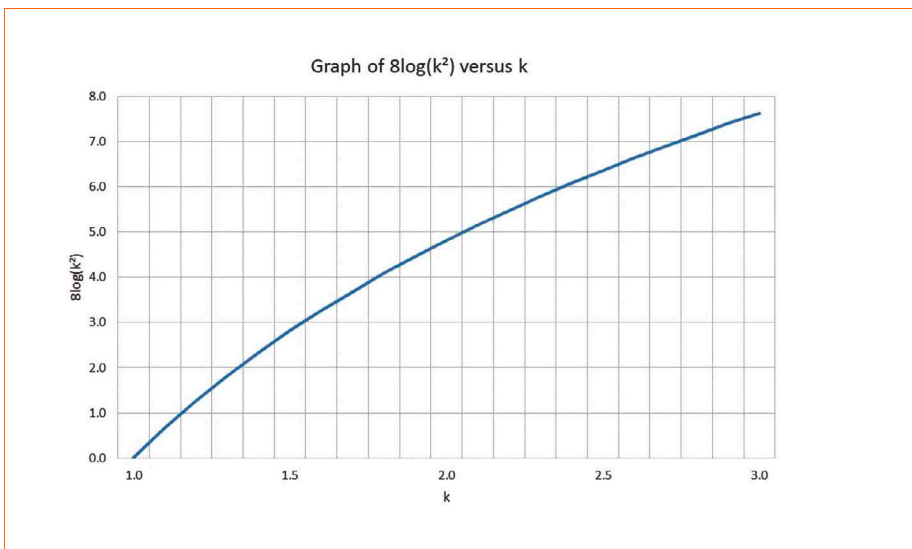

Figure 5: Values of $8 \cdot \log k^2$ for values of k
The practical implication of this is that as the non-uniformity of the glare source increases (i.e. the numerator in **Equation (4)** increases with respect to the denominator), the perceived discomfort glare will also increase because it is additive, as shown in **Equation (3)**. Representative values of $8 \cdot \log(k^2)$, and hence the increase in UGR value, are shown in **Figure 5** for $k = 1$ to $k = 3$.